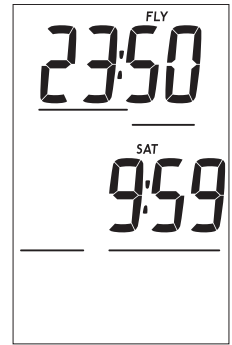

Fig. 7 - FLY/SAT
**Fly/Sat**, information includes (Fig. 7):